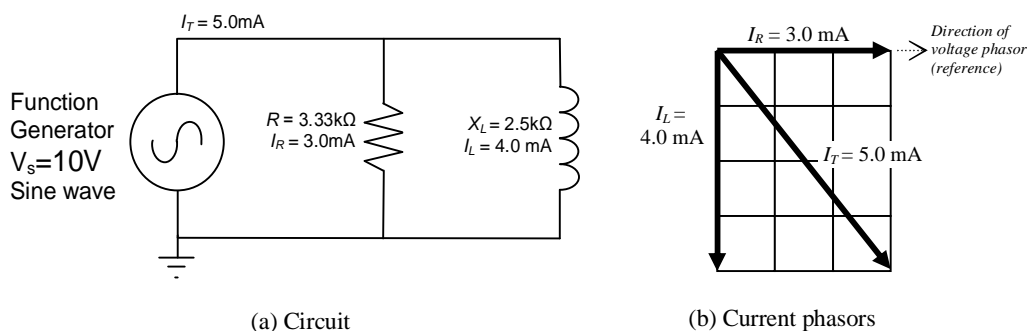

Figure 5.2: Parallel RL circuit
Figure 5.2 shows a parallel RL circuit and its current phasor diagram. Here we have assumed all components are “ideal”. The current in an ideal inductor is at -90° from the voltage reference, because the current lags the voltage in an inductor. However, practical inductors contain resistance that often is large enough to affect the phasor. The effect of the inductor's resistance on the phasor diagram would be to reduce the angle between the I_L and I_R . In a practical circuit, this an-
8. Using the computed peak-to-peak currents from Table 5.3, draw the current phasor diagram for the circuit. Ignore the effects of the sense resistors. Your diagram should look somewhat similar to Figure 5.2 (b).